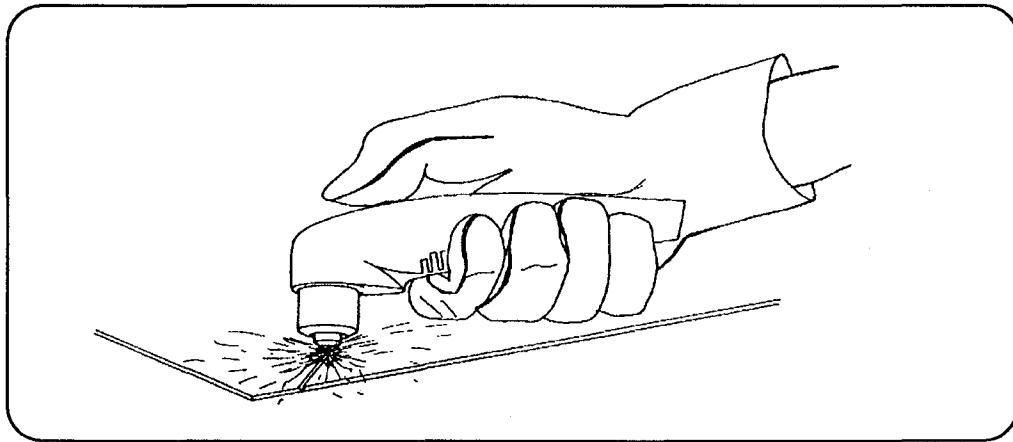

Figure 8 Starting a Cut
- Start cutting from the edge of the workpiece (Fig. 8) unless you must pierce. For tips on piercing, see the Operating Tips on piercing.